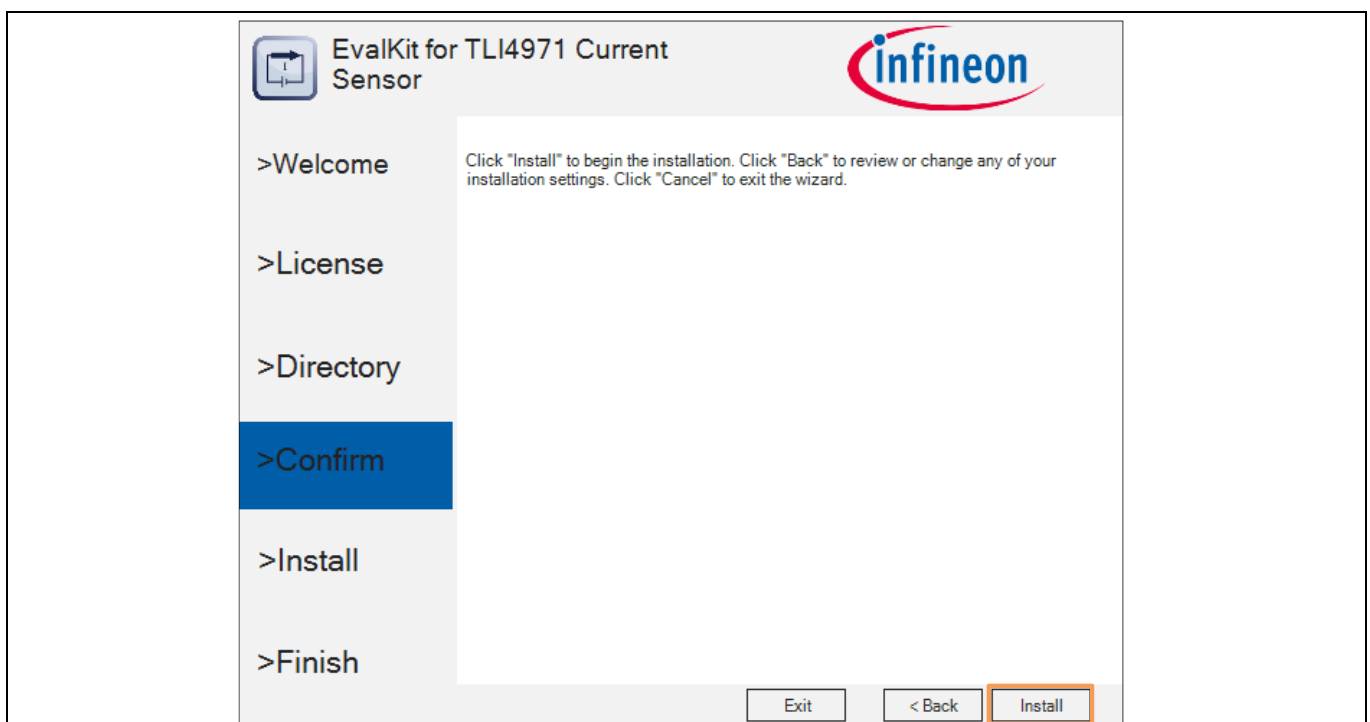

Figure 22 EvalKit Installer 1.0.2 – Confirm Installation
- Click “**Install**” to begin the installation which shown in Figure 22 (Red Color box). The installation will continue if you have the **admin rights** otherwise the installation might be aborted without completing the installation.